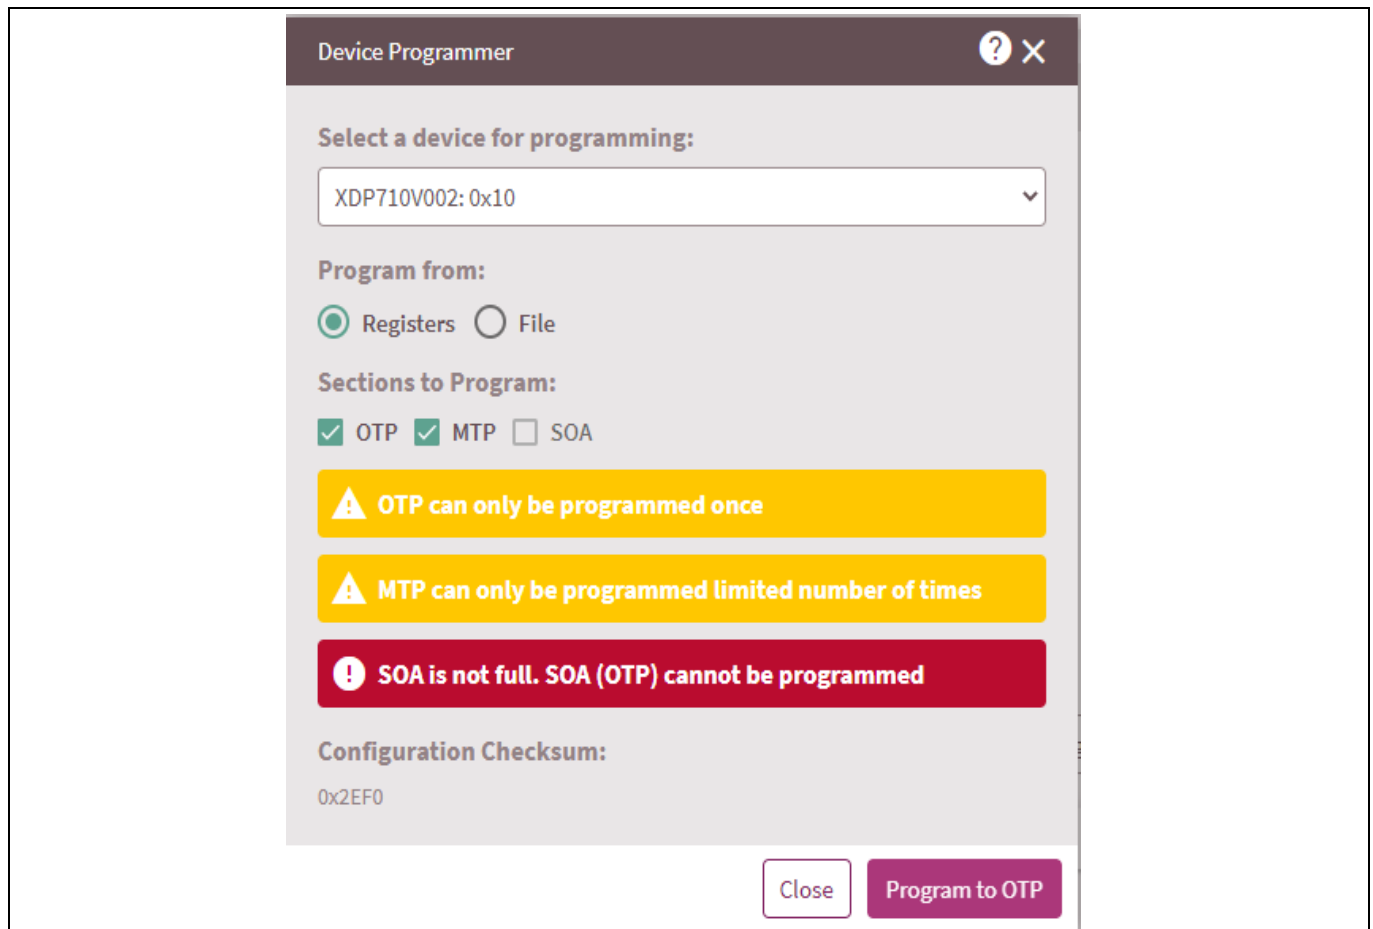

**Figure 44** Programming tab
2. Click the button highlighted as shown in Figure 44.